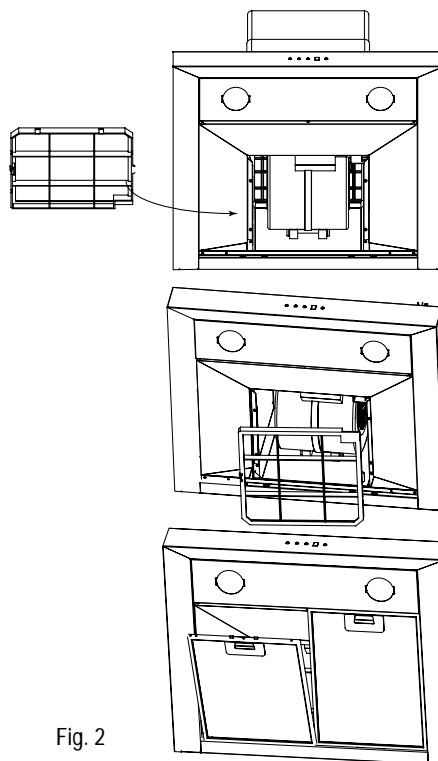

Fig. 2
2. Place the Carbon filter in the modular filter inside the hood (Fig. 2).